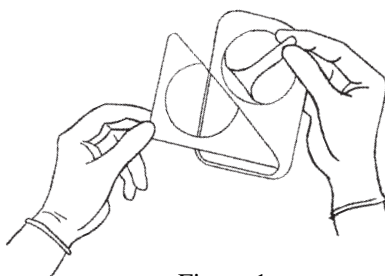

Figure 1
**Step 2:** Inoculation Procedure. Pull back the lower right corner of the white label adjacent to the clear window of the InTray lid until the protective seal over the agar is completely visible. Remove the seal by pulling the tab and discard the seal. (Figure 1) Do not remove the white filter strip over the vent hole.